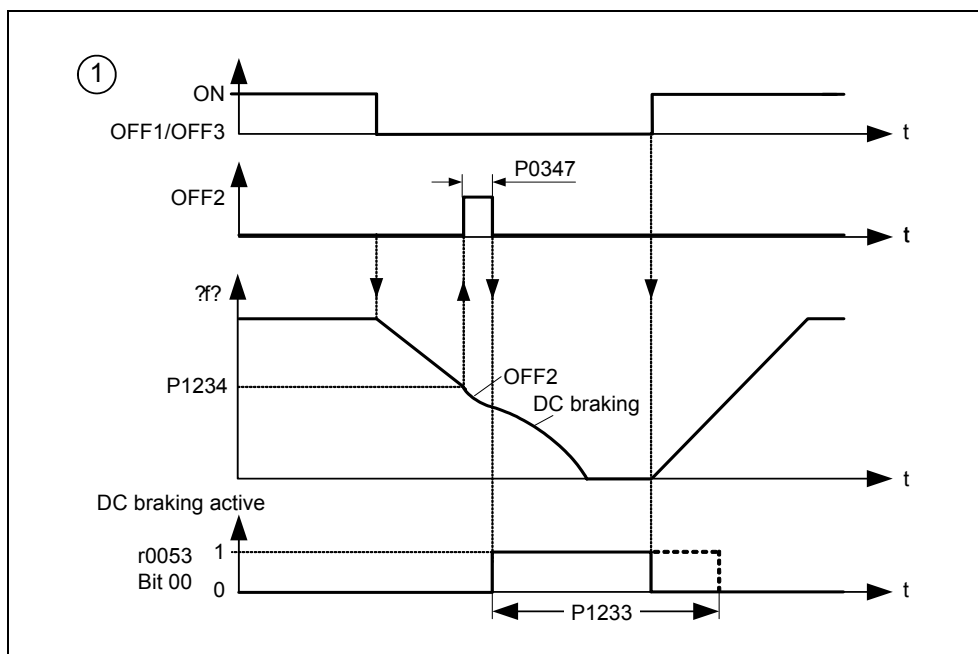

Fig. 3-52 DC braking after OFF1 / OFF3
**Sequence ①**
2. DC braking is activated with the OFF1 or OFF3 command (refer to Fig. 3-52)